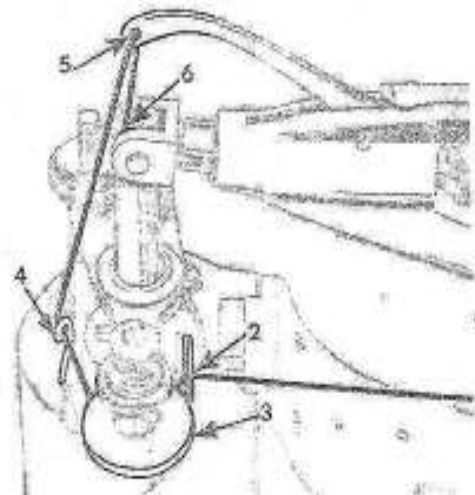

Fig. 20. Upper Threading
3. Draw the thread around back of pin **2** which is near the tension discs on top of the arm and from back to front and right to left between the tension discs **3**. **See Fig. 20**.